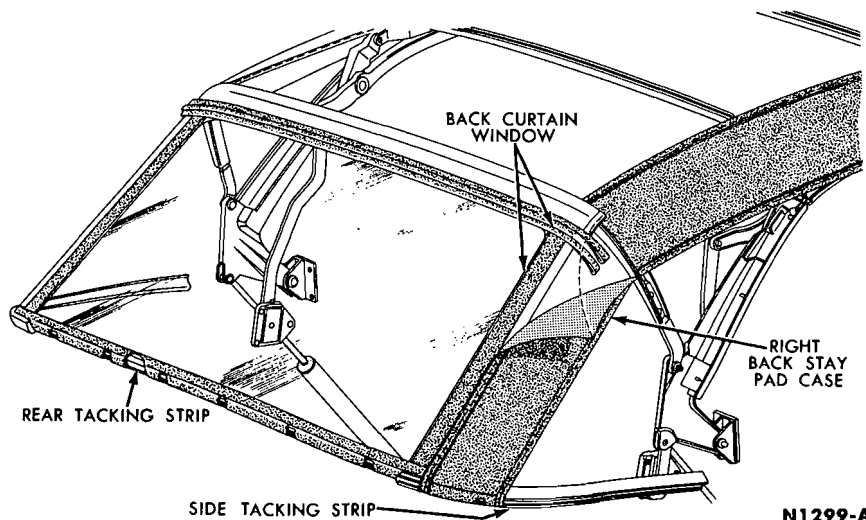

FIG. 9—Back Curtain—Mercury Intermediate, Fairlane
5. Pull the tacking strips from the curtain and remove the staples from the tacking strip (Fig. 9).